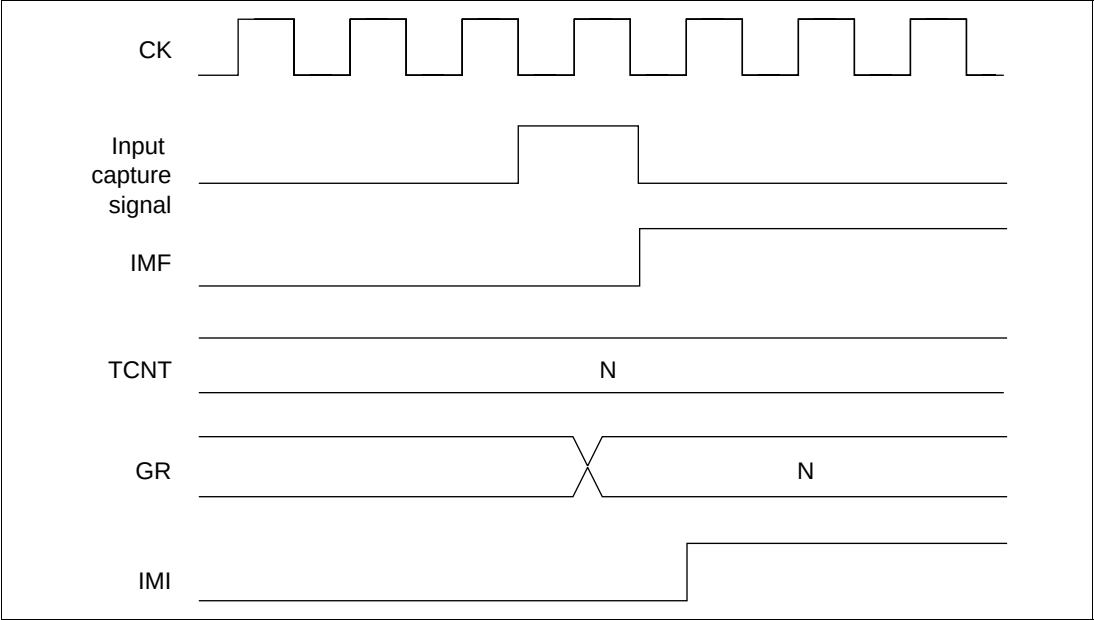

**Figure 10.55 Timing of Setting IMFA and IMFB for Input Capture**
**Timing of Setting IMFA, IMFB for Input Capture:** IMFA and IMFB are set to 1 by an input capture signal. At this time, the TCNT contents are transferred to GR. Figure 10.55 shows the timing.